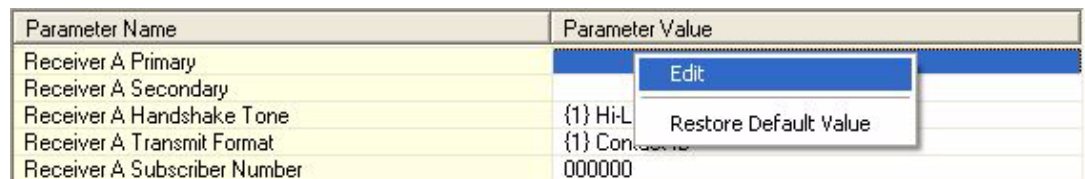

Figure 3.17 Example of an Editable Field
- **Editable Field:** To enter data in an editable field, right-click the field and select **Edit**. Enter the data and then press [Enter] on your keyboard. Refer to *Figure 3.17* for an example of an editable field.